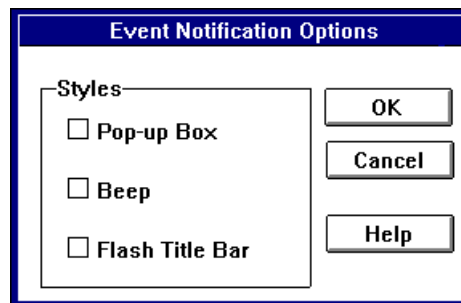

Figure 7-6. Event Notification Options Dialog Box
- 2 Click the **Notification** button; the Event Notification Options dialog box appears, as shown in Figure 7-6.
- 3 Click the **Notification** button to change the way in which you are alerted of event notifications sent from servers. The Event Notifications Options dialog box appears, as shown in Figure 7-6 on page 7-10. Select one or more of the available options.